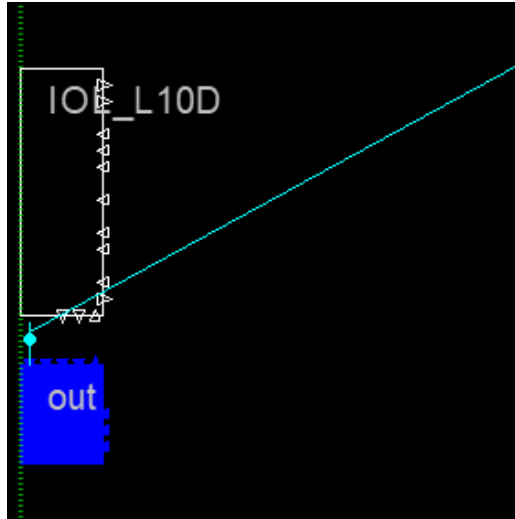

Figure 3.27. Routing Mode Showing the Attribute is Not Honored
2. Observe that post PAR, Physical Designer Routing Mode shows that the attribute is not honored by the tool as shown in Figure 3.27. This gives a good perspective in understanding if there are any modification required in your RTL code.